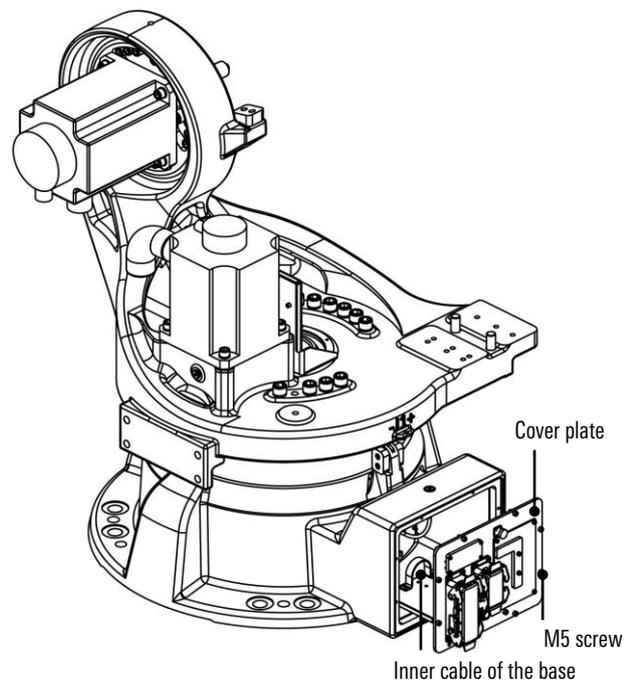

Figure 13-2 Inner cable of the base
- Remove the electrical mounting plate as shown in Figure 13-2, and pull out the internal cables of base.